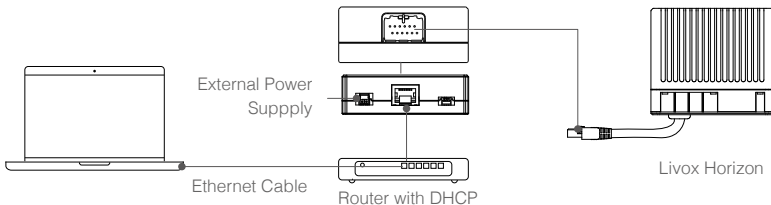

Figure 4.2.2 Connecting using dynamic IP address
5. Connect the Horizon, Livox Converter 2.0, router, computer, and external power supply by following Figure 4.2.2.